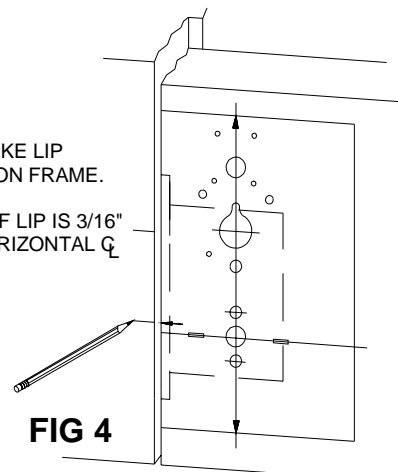

FIG 4
c. Separate the Door Edge Template from the Door Surface Template. Position the correct side of the Door Surface Template on the outside face of the Door, aligning the Locator points with the horizontal and vertical lines drawn on the Door as illustrated in Fig. 4